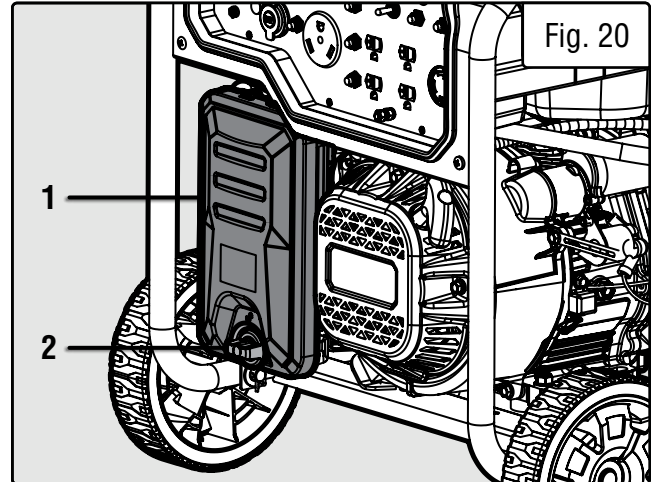

Fig. 20
1. Remove the air filter cover (Fig. 20 - 1) by unscrewing the cover lock knob (Fig. 20 - 2) at the bottom of the air filter cover.